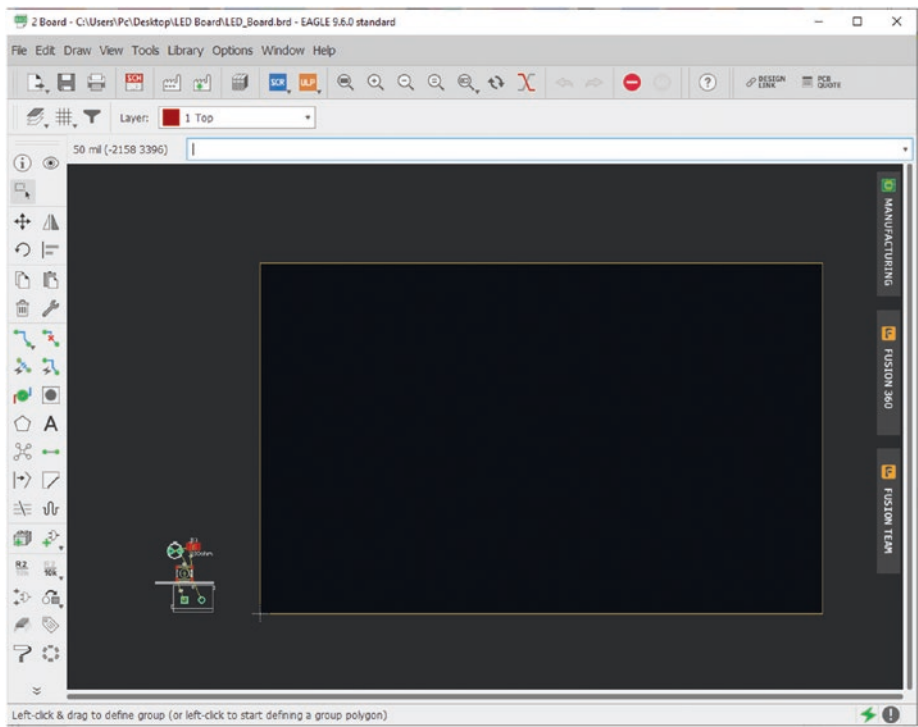

Figure 5-52. Board window
1. Go to the Board Layout window if you are already not there. See Figure 5-52.